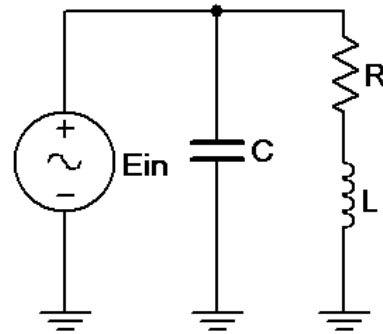

Figure 8.2
7. Using Figure 8.2 with a 10k Hz sine wave at 10 V p-p, $R=1\text{ k}\Omega$, $L=10\text{ mH}$, and $C=10\text{ nF}$, determine the theoretical inductive and capacitive reactances, series branch impedance and total circuit impedance, and record the results in Table 8.3. Using Ohm's law compute the capacitor and inductor-resistor currents along with the input current and record them in Table 8.4.
8. Build the circuit of Figure 8.2 using $R=1\text{ k}\Omega$, $L=10\text{ mH}$, and $C=10\text{ nF}$. Insert a $10\text{ }\Omega$ current sense resistor at the bottom of the LR leg and another at the bottom of the capacitor leg. Set the generator to a 10 kHz sine wave and 10 V p-p. Make sure that the *Bandwidth Limit* of the oscilloscope is engaged for both channels. This will reduce the signal noise and make for more accurate readings.
4. In general, how would the phasor diagram of Figure 8.2 change if the frequency was lowered?